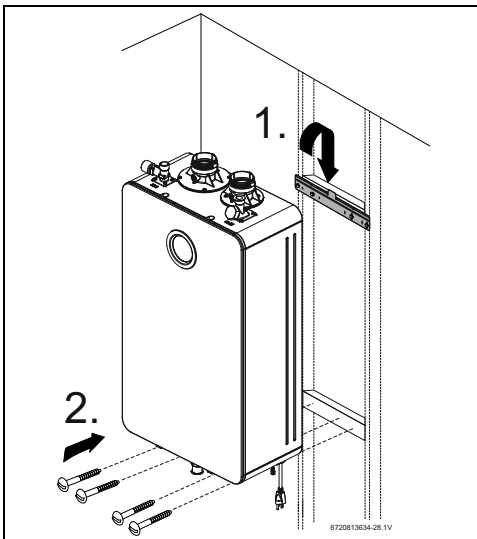

Fig. 9 Mounting the heater
- Hang the appliance on the bracket, see fig. 9.